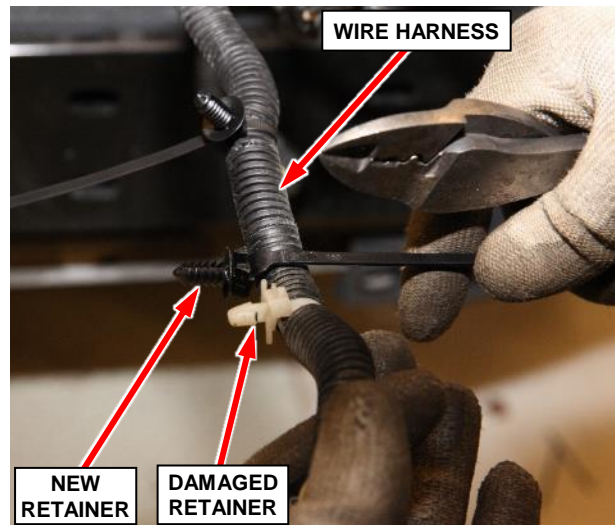

Figure 11 – Wire Harness Retainers
16. Replace any damaged retainers on the cooling fan module wire harness. Install the replacement retainers in the same location and direction as the original retainer (Figure 11).